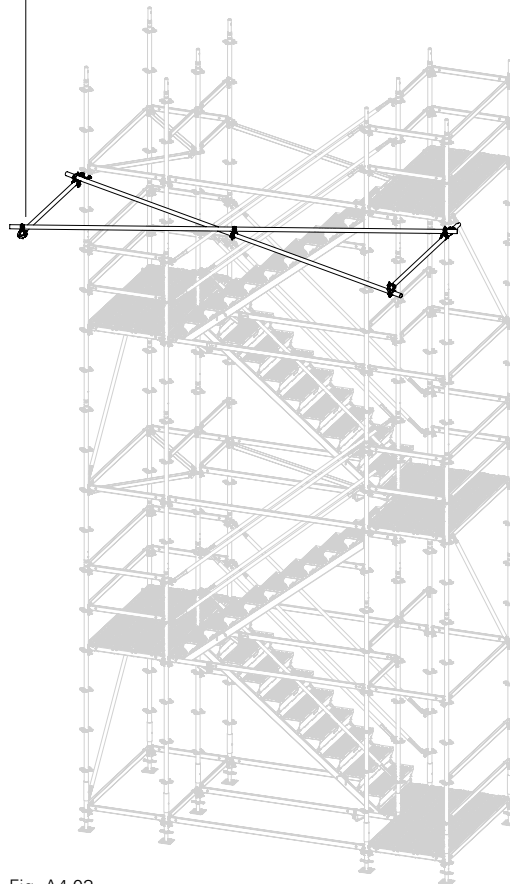

Fig. A4.03
4. At the intersection point of the scaffold tubes, fit swivel couplers for connecting both scaffold tubes. (Fig. A4.03 and A4.04)